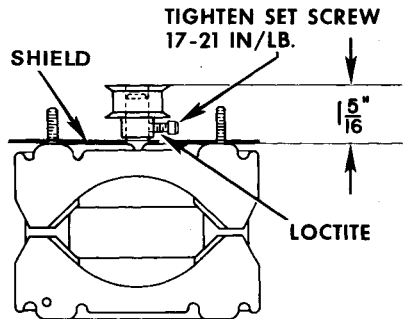

Figure 1 — Pulley Location
1. Transfer motor pulley to new motor (or use new pulley) and adjust height per Figure 1. Set screw must be tight to approximately 20 inch-pounds and sealed with loctite.